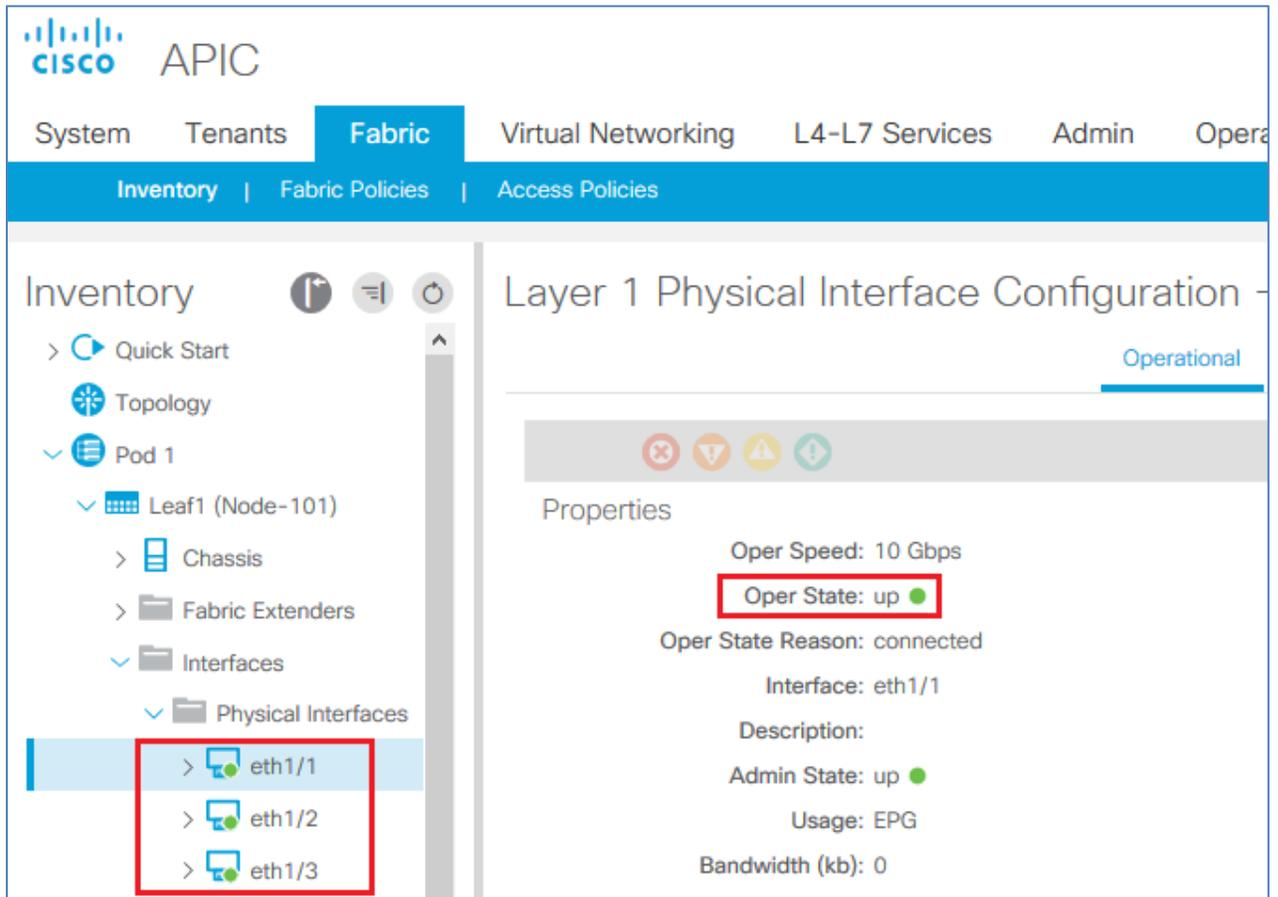

Figure 54 Cisco ACI physical interfaces
1. In the APIC GUI, go to **Fabric > Inventory > Pod 1 > Leaf name > Interfaces > Physical Interfaces** as shown in Figure 54.